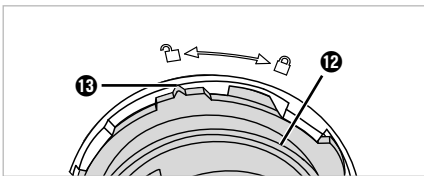

Fig. 6
- Turn the bracket **12** anticlockwise until the marking **13** on the bracket **12** points towards the  symbol on the dough container **15** (**fig. 6**). Remove the bracket **12** together with the dough shaft **10**.